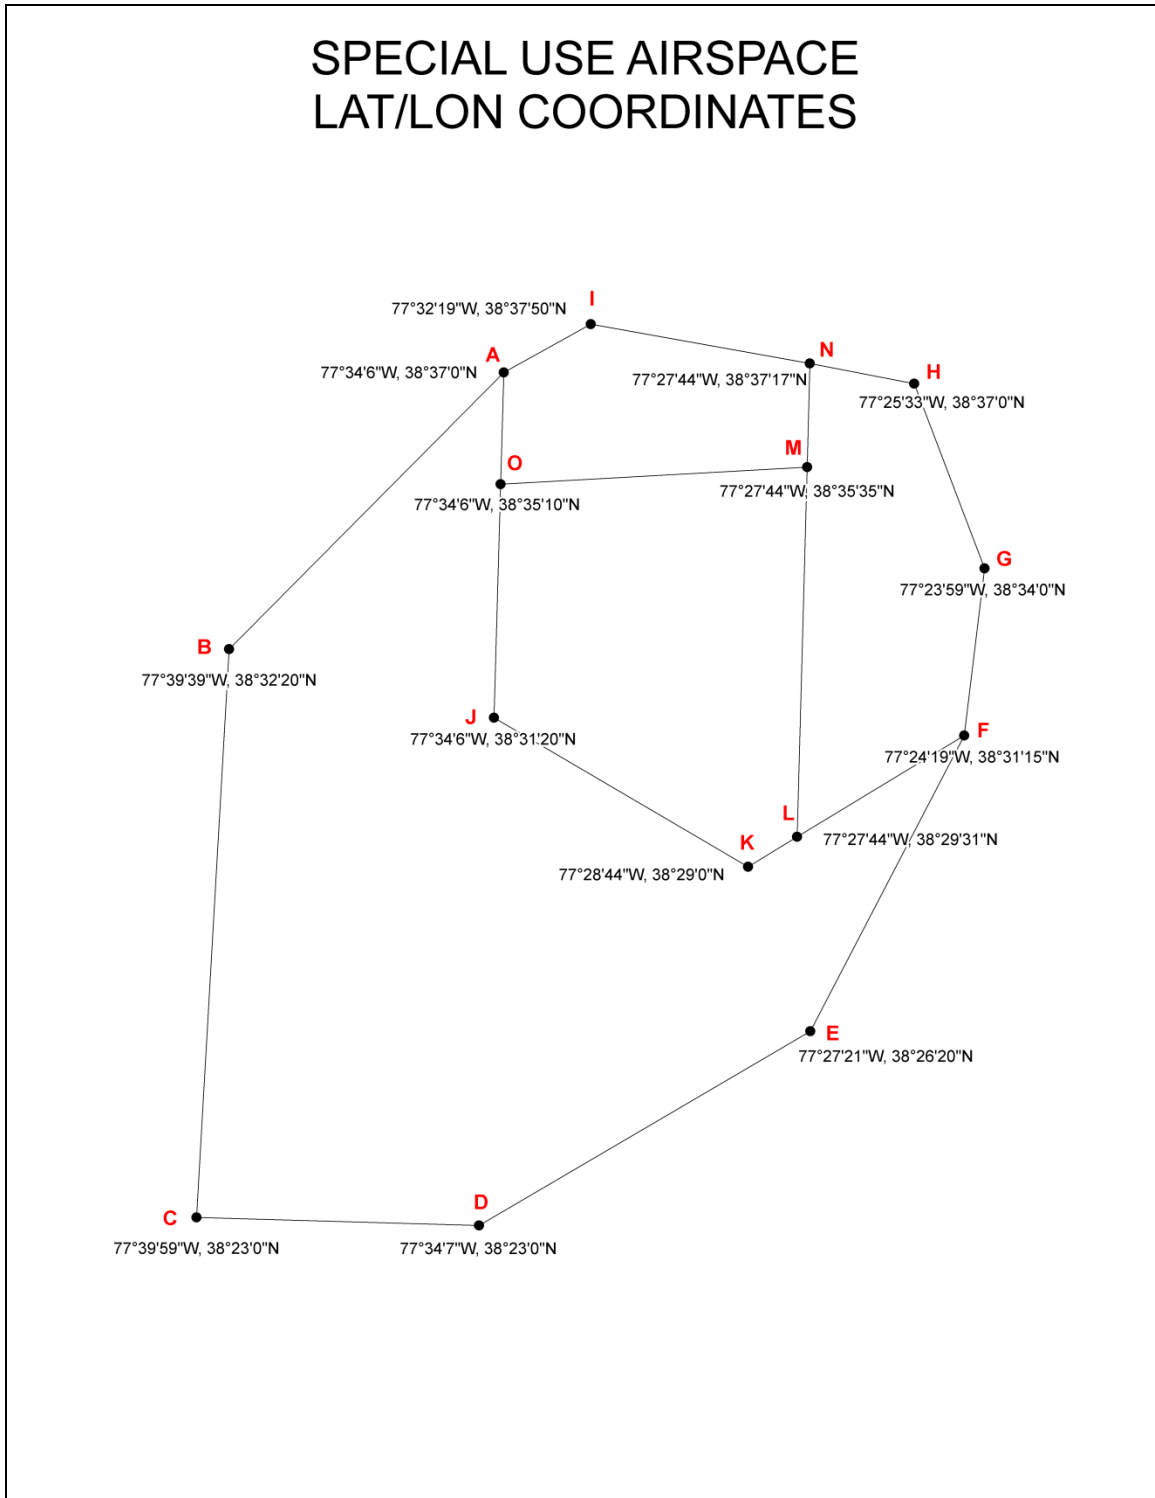

Figure 4-1 Airspace Boundaries
5. Figure 4-1 details the airspace boundaries and Figure 4-2 depicts MCBQ SUA and the DEMO Military Operations Area (MOA).